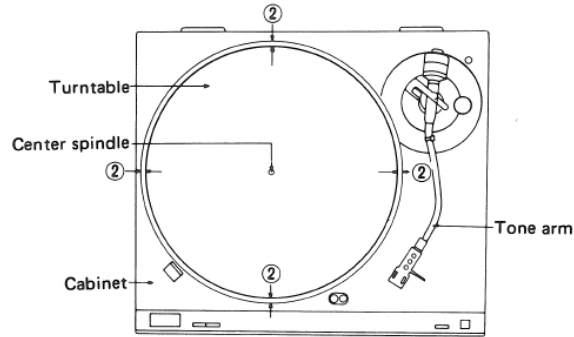

Fig. 17
2. Adjust so that the center spindle is aligned to the center of the turntable provided with equal clearances ❷ as in Fig. 17.
3. Completely tighten the 4 setscrews ❶, taking care not to allow deflection of the center spindle.